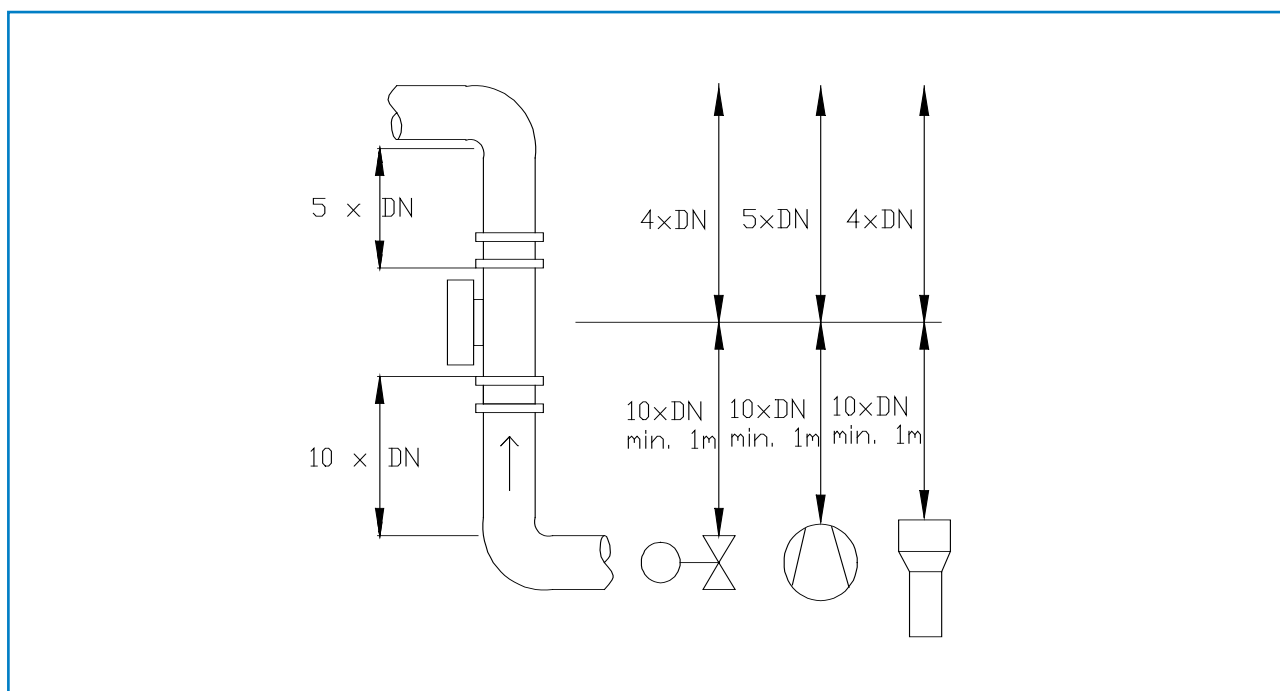

Fig. 6: Minimal distances of the sensor to pipe bends and baffles
- Follow the necessary distances of valves, bows, fans or cellular wheel sluices etc. and also other measurement devices like temperature and pressure etc. to the sensor (see fig. 6).